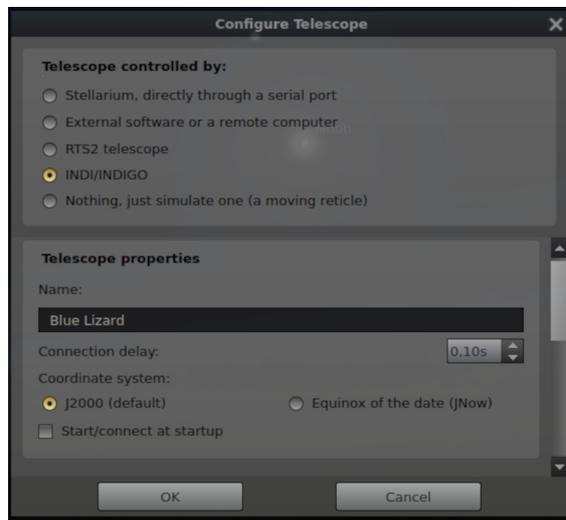

Figure 11: The first part of the *Configure Telescope* screen of *Stellarium*. **INDI/INDIGO** needs to be selected as the connection method.
- Select *INDI/INDIGO*, give your telescope a name, set an equinox and a short connection delay, and check whether you want to connect at startup (Fig. 11).